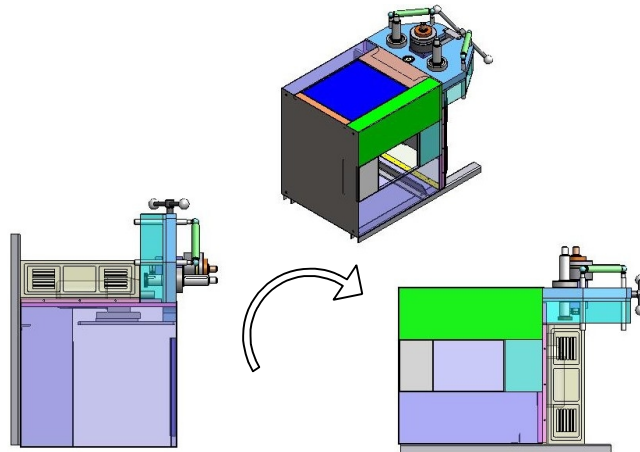

Figure 2
If you have no alternative to install the machine in a broad area but a low-height area, then there is a solution to this problem as shown in figure 2.
- When you are satisfied that you have lifted the machine to the degree that only the corner shown by ② in figure 2 touches to the floor, rotate the machine right slowly with the help of a person so that the mass center of the machine tend to be at the right side of that corner.